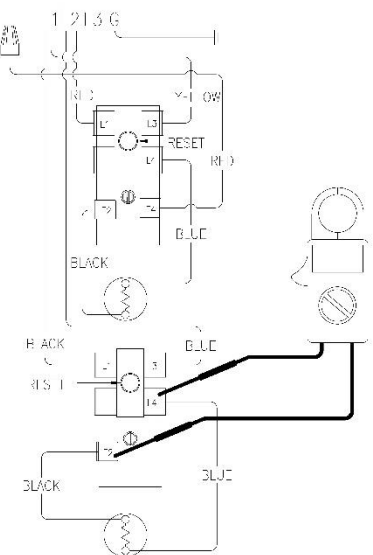

Figure 26
7. Check across terminal L4 of lower thermostat and T2 of lower thermostat (see Figure 26).